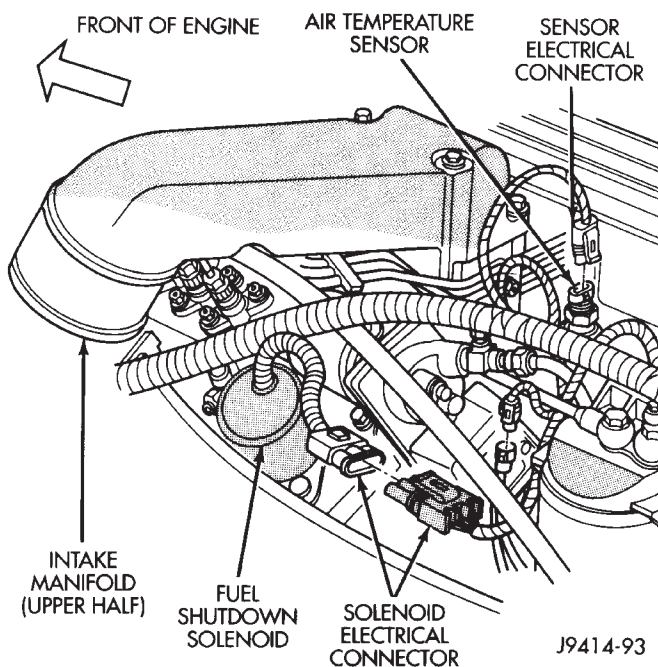

Fig. 3 Intake Manifold Air Temperature Sensor Location—Typical
- The Intake Manifold Air Temperature (IAT) sensor (Fig. 3) to supply an intake manifold air temperature input to the PCM.